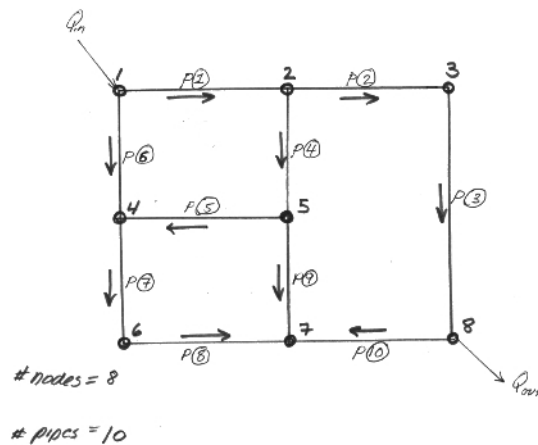

Figure 3. Pipe network for illustrative example with pipes and nodes labeled..
- (a) An analysis showing the development of the node-arc incidence matrix based on the flow directions in Figure 3,